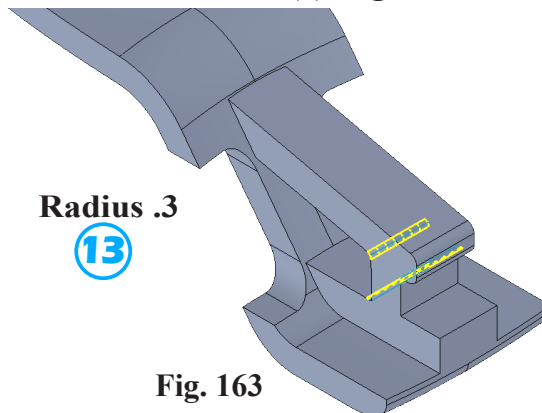

Fig. 163
⑬ **Radius**  .3
click **edge under catch and inside frame (3)**, Fig. 163